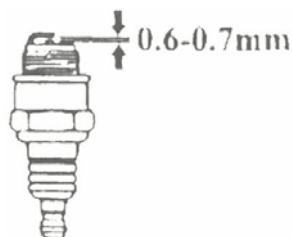

Fig. 17
3. Measure the spark plug clearance with a feeler. The clearance should be .024”-.028” or 0.6~0.7mm / .024”-.028” (Fig. 17). If adjustment is necessary, bend the side electrode carefully.